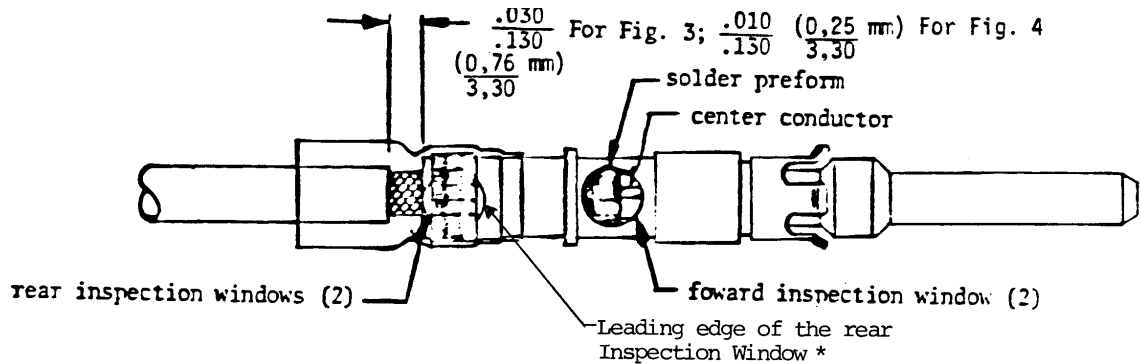

Figure 5
5.2.2 Inspect for proper insertion (see Figure 5).
The distance from the rear of the contact body to the cable jacket insulation must be as shown on Figure 5.